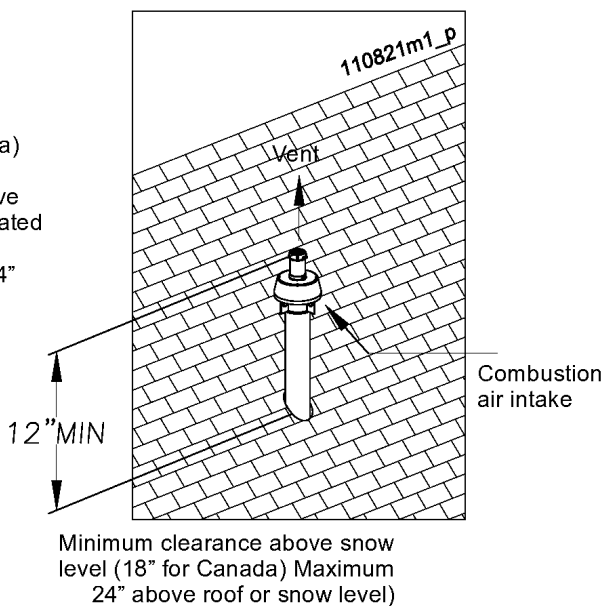

Figure 10-29 Concentric vertical terminations
1. Determine the best location for the termination kit (see Figure 10-29).
4. Cut one (1) hole into the structure to install the termination kit.